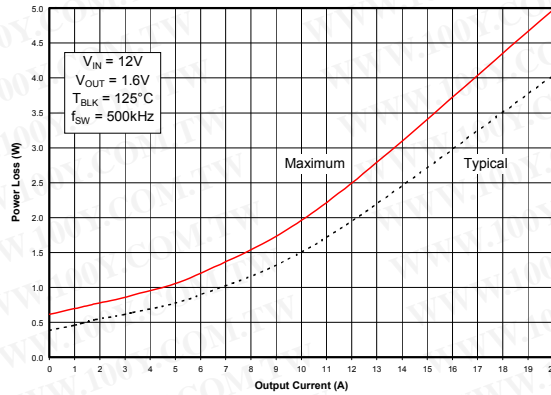
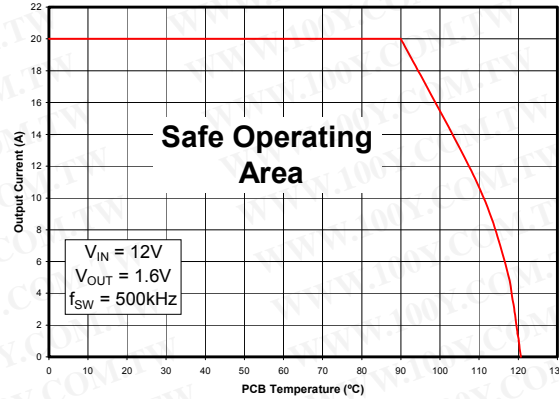
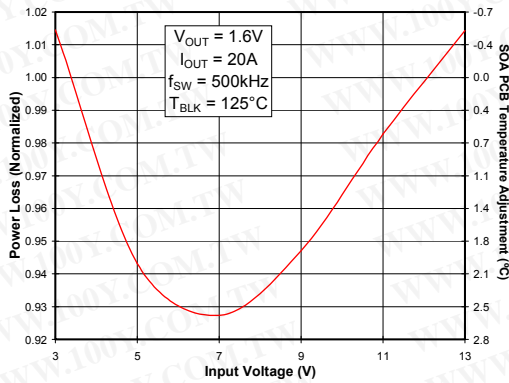

Fig 1. Power Loss vs. Current
Fig 2. Safe Operating Area (SOA) vs.  $T_{PCB}^*$
Fig 3. Normalized Power Loss vs.  $V_{IN}$
To make adjustments to the power loss curves in Fig. 1, multiply the normalized value obtained from the curves in Figs. 3, 4, 5 or 6 by the value indicated on the power loss curve in Fig. 1. If multiple adjustments are required, multiply all of the normalized values together, then multiply that product by the value indicated on the power loss curve in Fig. 1. The resulting product is the final power loss based on all factors.
To make adjustments to the SOA curve in Fig. 2, determine the maximum allowed PCB temperature in Fig. 2 at the required operating current. Then, add the correction temperature from the normalized curves in Figs. 3, 4, 5 or 6 to find the final maximum allowable PCB temperature. When multiple adjustments are required, add all of the temperatures together, then add the sum to the PCB temperature indicated on the SOA graph to determine the final maximum allowable PCB temperature based on all factors.
- (Fig. 1) Maximum power loss = 5W
- (Fig. 3) Normalized power loss for input voltage  $\approx 0.925$
- (Fig. 2) SOA PCB Temperature = 90°C
- (Fig. 3) Normalized SOA PCB Temperature for input voltage  $\approx 2.6^\circ\text{C}$